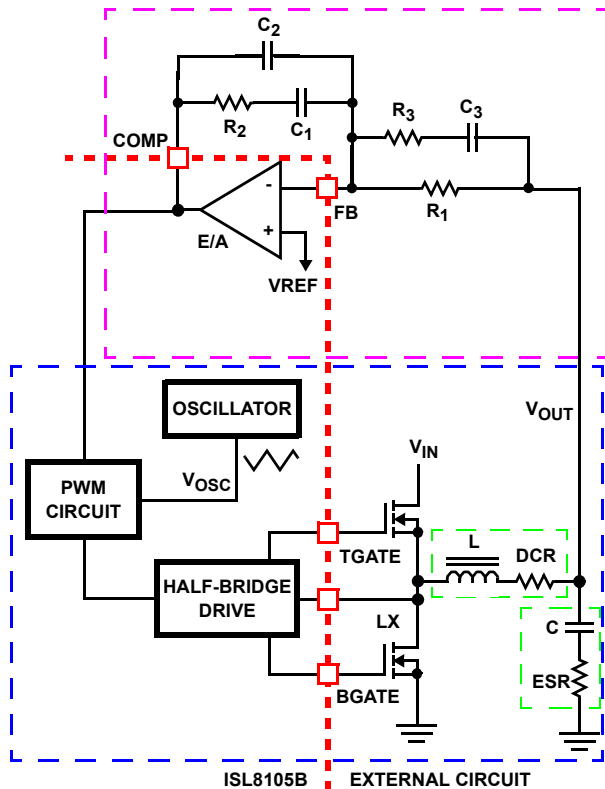

FIGURE 9. VOLTAGE-MODE BUCK CONVERTER COMPENSATION DESIGN
This section highlights the design considerations for a voltage-mode controller requiring external compensation. To address a broad range of applications, a type-3 feedback network is recommended (see Figure 9).
Figure 9 highlights the voltage-mode control loop for a synchronous-rectified buck converter, applicable to the ISL805B circuit. The output voltage ( $V_{OUT}$ ) is regulated to the reference voltage,  $V_{REF}$ , level. The error amplifier output (COMP pin voltage) is compared with the oscillator (OSC) triangle wave to provide a pulse-width modulated wave with an amplitude of  $V_{IN}$  at the LX node. The PWM wave is smoothed by the output filter (L and C). The output filter capacitor bank's equivalent series resistance is represented by the series resistor ESR.
The compensation network consists of the error amplifier (internal to the ISL8105B) and the external  $R_1$  to  $R_3$ ,  $C_1$  to  $C_3$  components. The goal of the compensation network is to provide a closed loop transfer function with high 0dB crossing frequency ( $F_0$ ; typically 0.1 to 0.3 of  $f_{SW}$ ) and adequate phase margin (better than  $+45^\circ$ ). Phase margin is the difference between the closed loop phase at  $F_{0dB}$  and  $+180^\circ$ . The equations that follow relate the compensation network's poles, zeros and gain to the components ( $R_1$ ,  $R_2$ ,  $R_3$ ,  $C_1$ ,  $C_2$ , and  $C_3$ ) in Figure 9. Use the following guidelines for locating the poles and zeros of the compensation network:
1. Select a value for  $R_1$  (1k $\Omega$  to 10k $\Omega$ , typically). Calculate value for  $R_2$  for desired converter bandwidth ( $F_0$ ). If setting the output voltage to be equal to the reference set voltage as shown in Figure 9, the design procedure is shown in Equation 5.